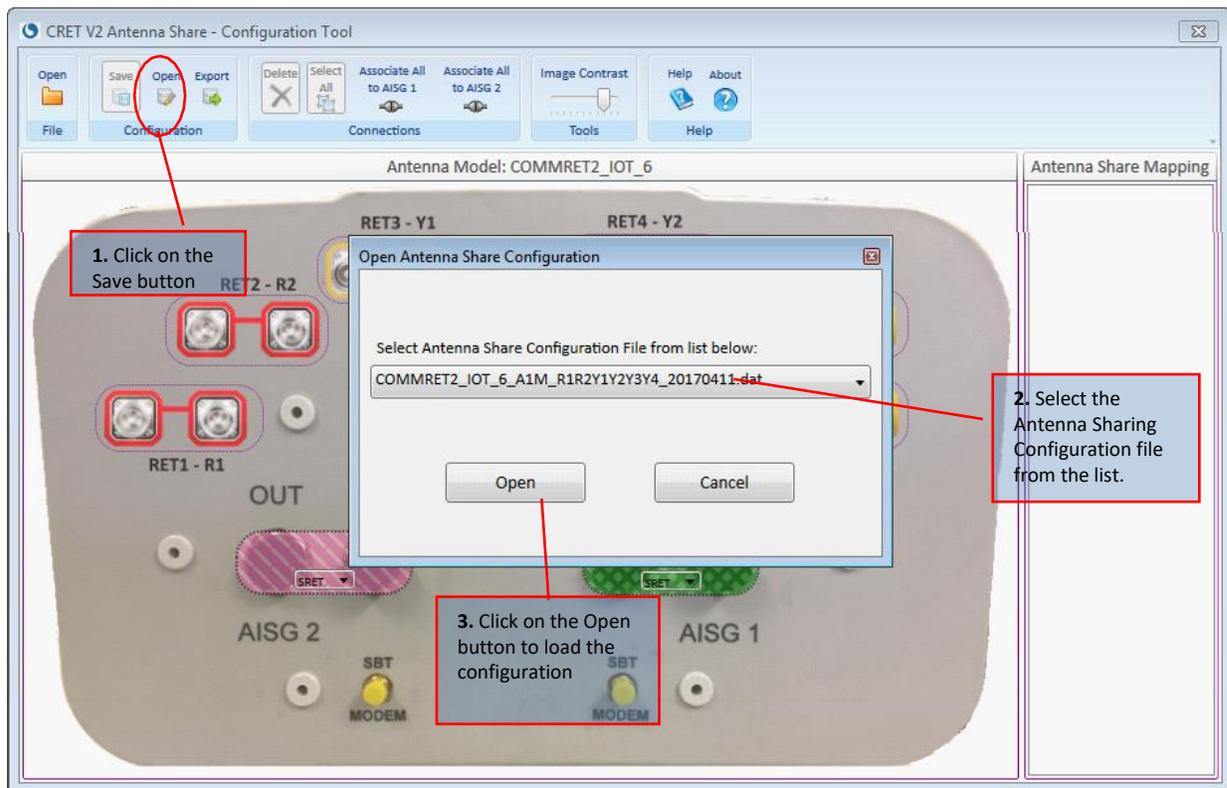

Figure 15-15. Opening antenna sharing configuration data
3. Click on the “Open” button to load the Antenna configuration to the tool as shown in the Figure 15-15.